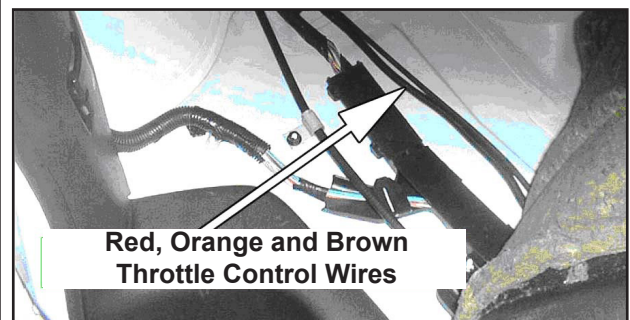

Figure 45. Route Throttle Cable to Controller
4. Route the 3 Speed Throttle Cable under the driver's side floor mat to the controller (refer to Figure 45). Tie wrap or tape to the transmission shift cable, routing it up, under the dash.